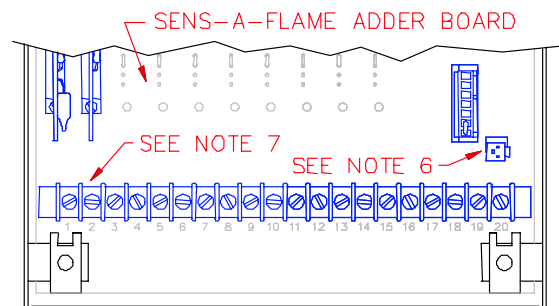

FIGURE 2
6. Connect 2 position nylon sockets at end of cable to math 2 pin plug at lower right side of Sens-A-Flame II. Flange on side of socket should engage clip on side of plug to provide positive polarity connection. Refer to figure 2